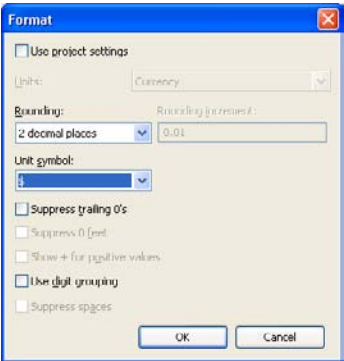

Figure 12.18
10. Change the Unit Symbol field to \$ (Figure 12.18).